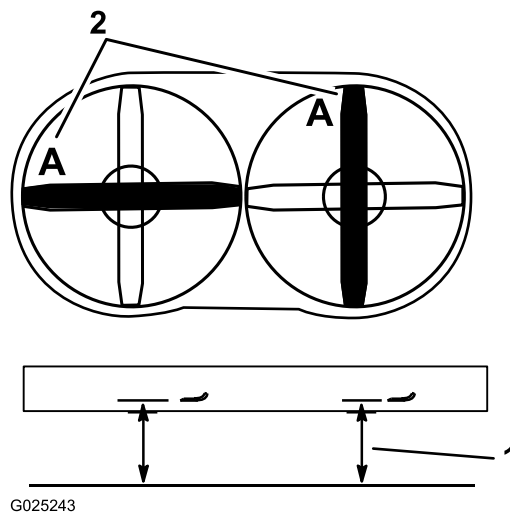

Figure 65
3. Rotate 1 blade as shown in Figure 65.
4. Measure from a level surface to the cutting edge at position A of the blade (Figure 65). Note this dimension.